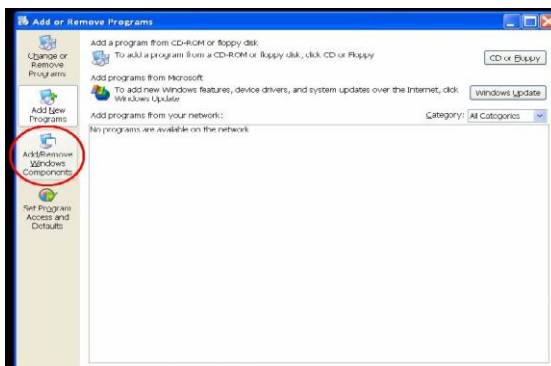

Figure A-9
**Step 2:** When the **Add or Remove Programs** dialog box appears, click the **Add/Remove Windows Components** button. See Figure A-9.